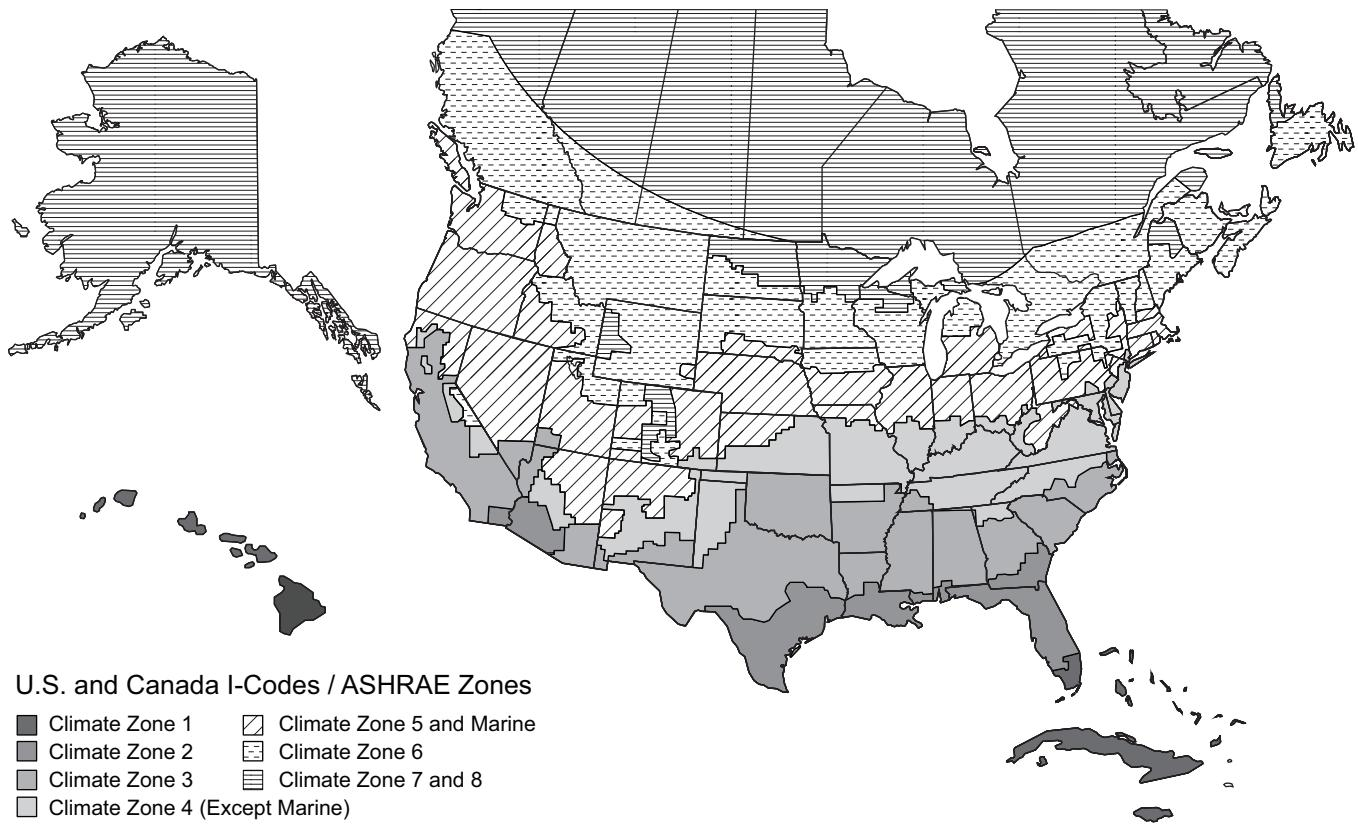

Fig. 76 — U.S. and Canada Climate Zones
- Refer to Fig. 76 for map of U.S. and Canada climate zones.